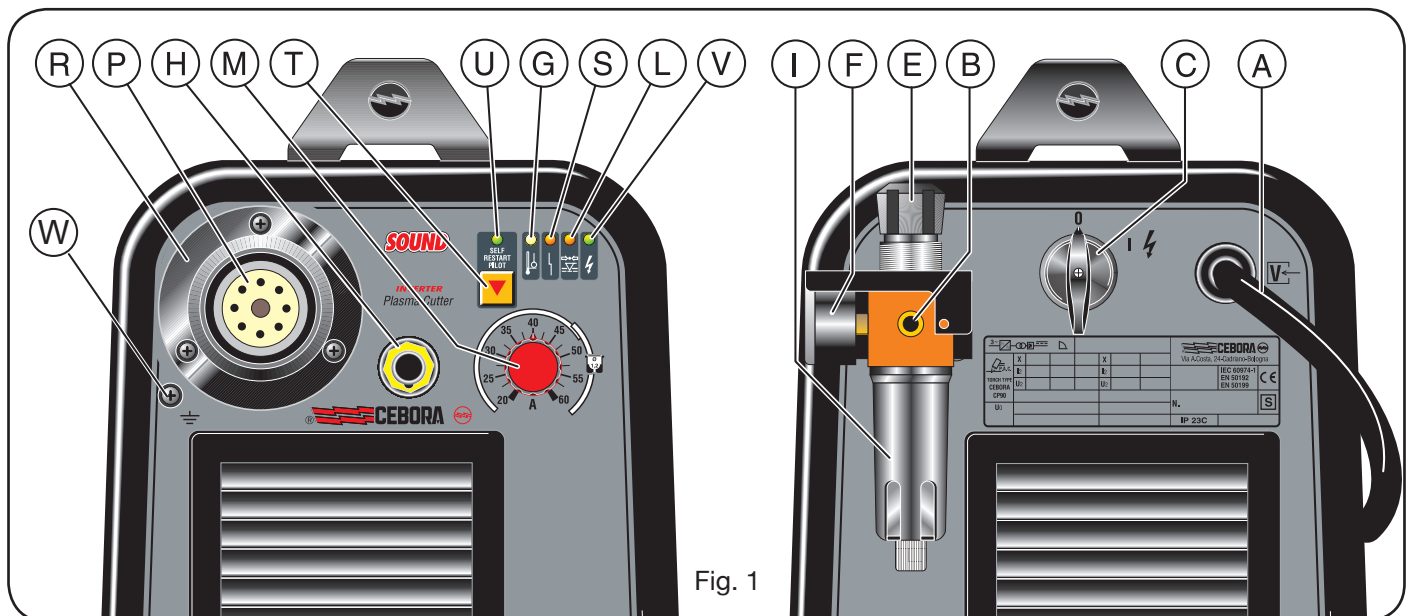

Fig. 1
2.1 TORCH ASSEMBLY (Fig. 1)
To avoid overloads. It is evidenced by the **G** led continuously on (see fig.1).
Located on the torch inlet to prevent low air pressure. The LED **L** lights when tripped (see fig.1).